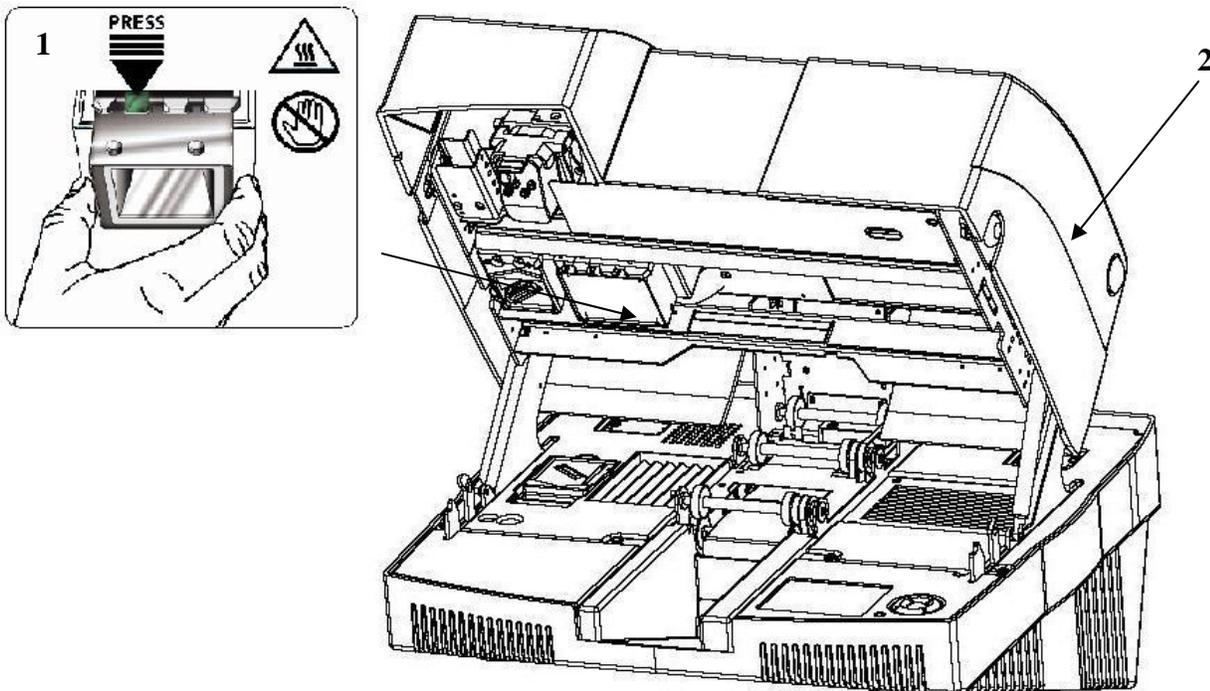

Fig. 4-2 View of the UV unit
- Press in the pushbuttons on both sides of the printer (2 in figure 4-2) and open the cover.